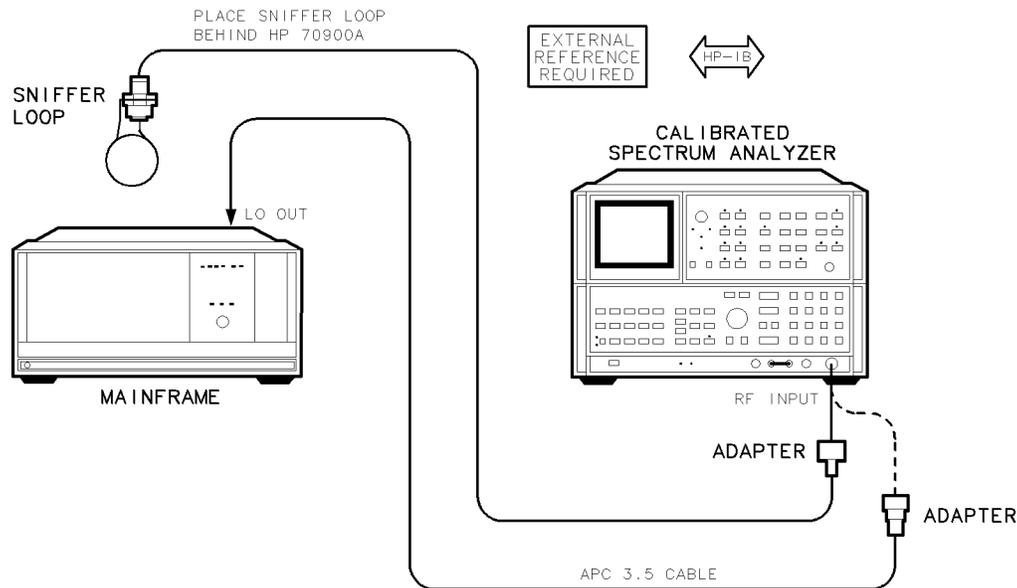

Figure 7-7. LO 40 kHz Sidebands Test Setup
1. Connect the HP 8566B spectrum analyzer’s RF INPUT using the adapter to the DUT’s LO OUT, as shown in Figure 7-7.
2. Connect the sniffer loop to the spectrum analyzer’s RF INPUT using the adapter, as shown in Figure 7-7.